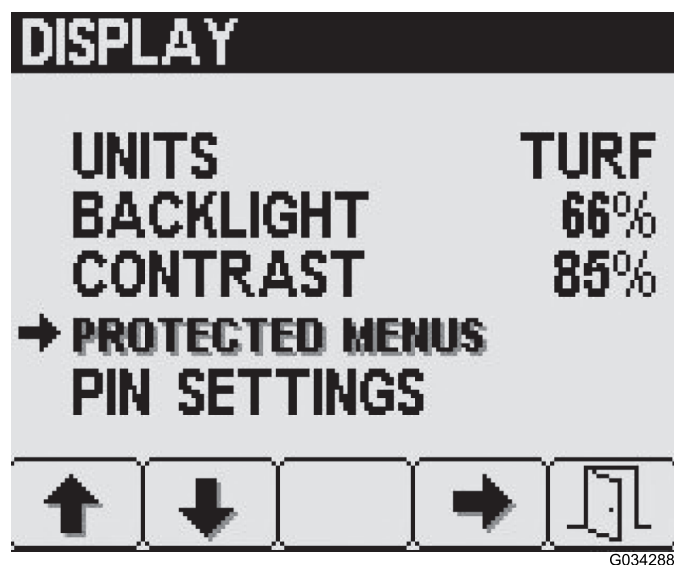

Figure 12
1. Press button 2 on the Display settings screen until you reach Protected Menus, then press button 4 to select Protected Menus (Figure 12).
2. Press button 2 until you reach the desired protected menu item (Figure 12).